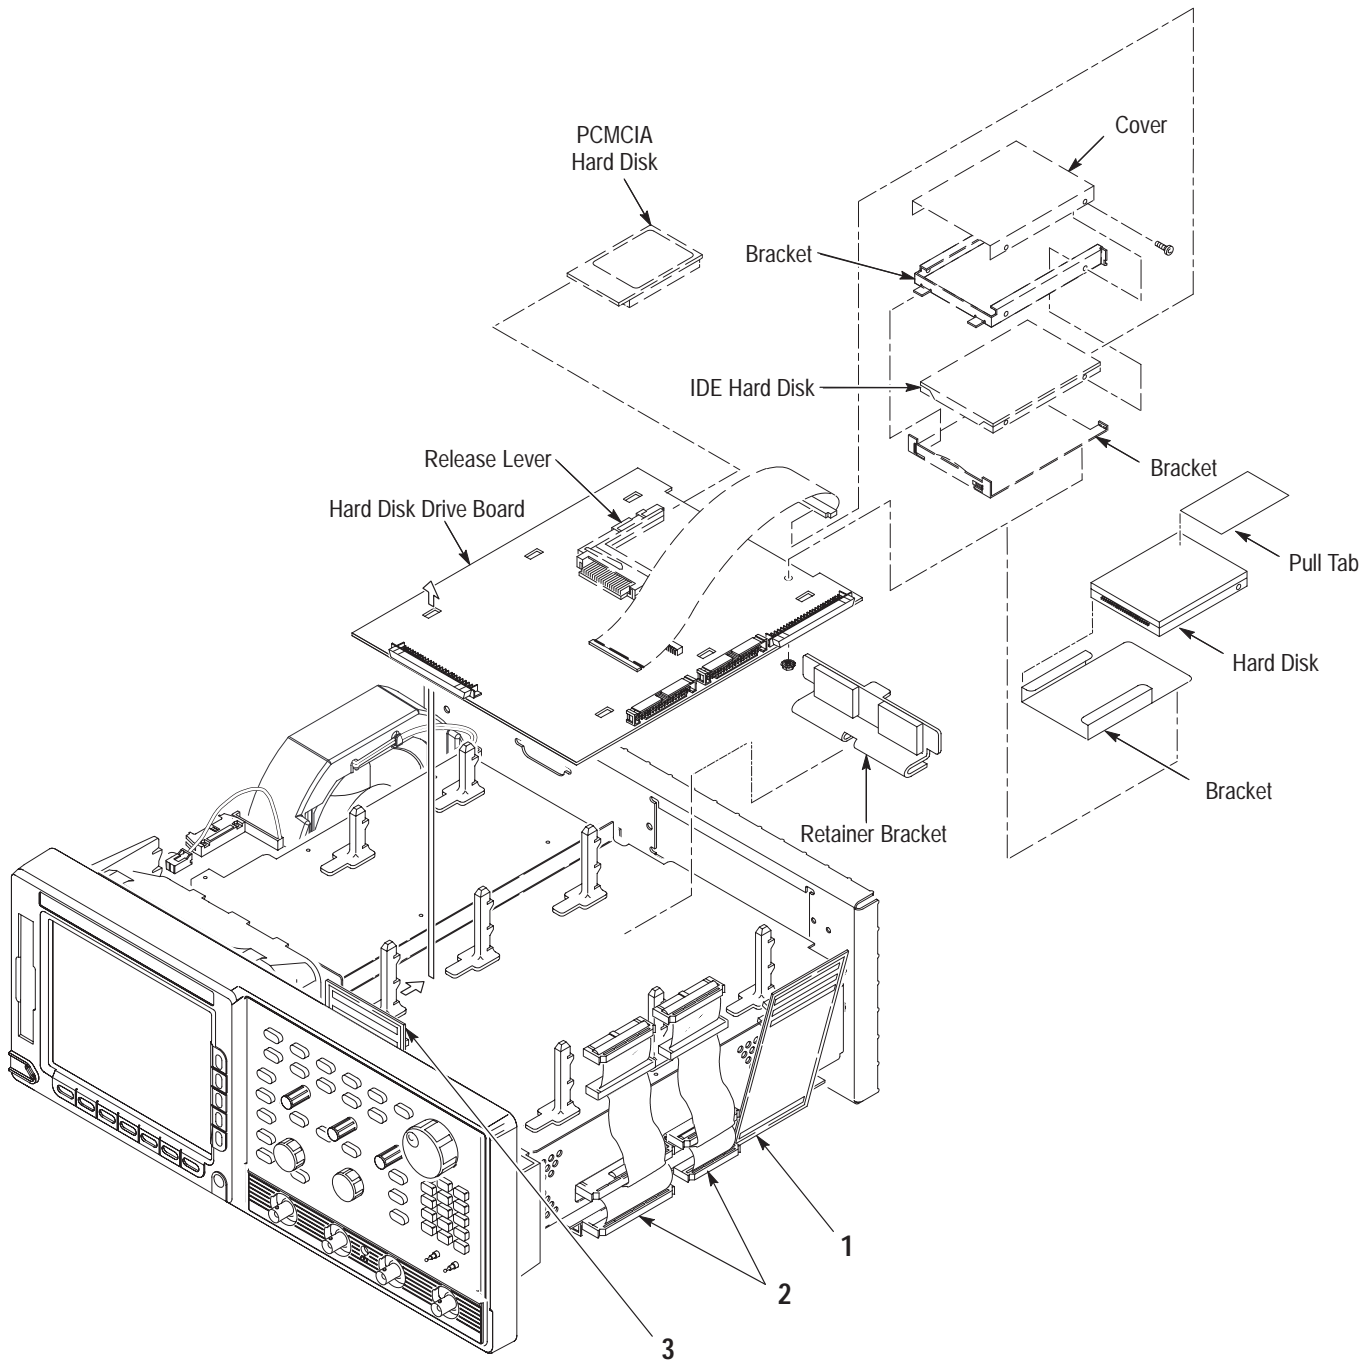

Figure 6-17: Hard disk removal
3. *Remove the hard disk drive:* Use Figure 6-17 as a guide.